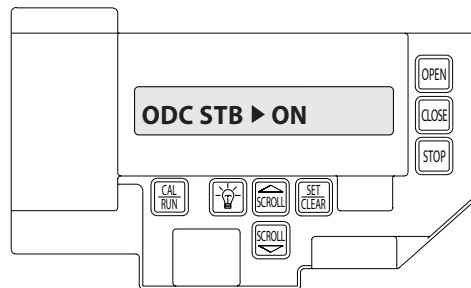

Figure 10
- 2) Press SCROLL  key (up or down) until display reads “ODC STB>ON” or “ODC STB>OFF” **Figure 10**.